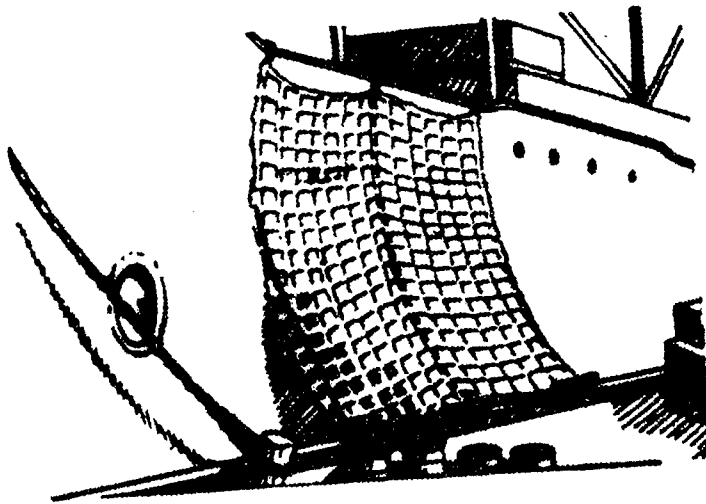

Fig. 7-1b Save-all
- b. Cargo nets are used to advantage when handling non-uniform packages. The nets may be made of manila, wire rope, or more commonly, of nylon webbing. Depending on the size of the load, cargo net beackets maybe attached directly to the hoisting hook. They may also be used with a four-legged (or ganged) bridle (See **Figure 7-1b.**)